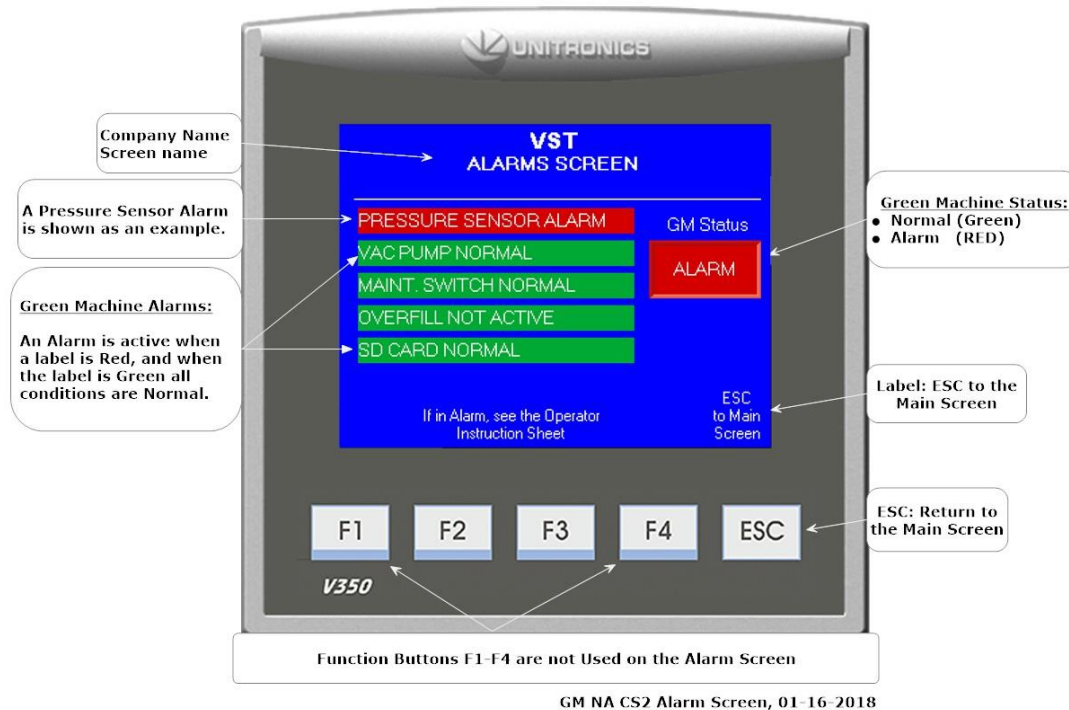

Figure 11-5: Overfill Alarm shown on the Faults & Alarms Screen
- The Alarms Screen shows the following alarms: **See Figure 11-5.**